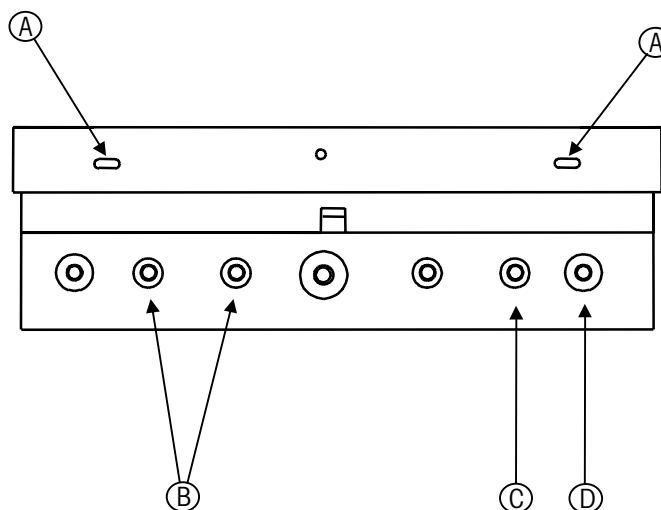

Figure 2-1: Cougar Terminal Access and Connections
- Insert the tip of a flat-blade screwdriver into one of the two slots (A) located on the bottom of the front panel assembly (see Figure 2-1) and gently push in toward the enclosure. Push in on the side of the slot farthest from the front face of the cover. You should hear a quiet pop when the cover is released.
2. Pass the cable through the cable grip bushing at opening C (see Figure 2-1) on the bottom of the enclosure so that the end with the bare wires is inside the enclosure.